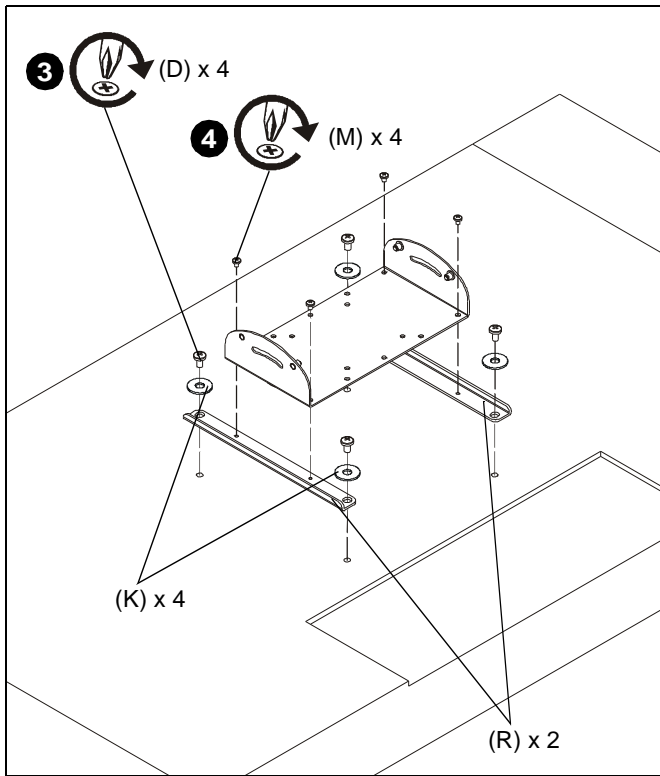

Figure 8
3. Use four M4x12mm Phillips pan machine screws (D) and four M4 washers (K) to secure two adapter brackets (R) to back of display. (See Figure 8)
4. Use four M4x5mm Phillips machine screws (M) to secure front plate (Q) to adapter brackets (R). (See Figure 8)